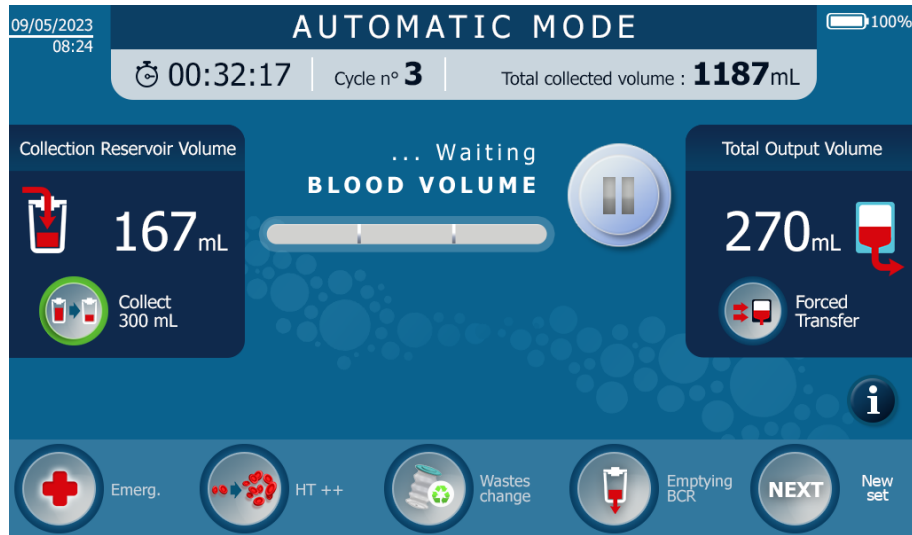

Figure 114: 300mL treatment screen with the function activated
- The activated '300 ml treatment' function is displayed by a Treatment function button  (See Figure 114).